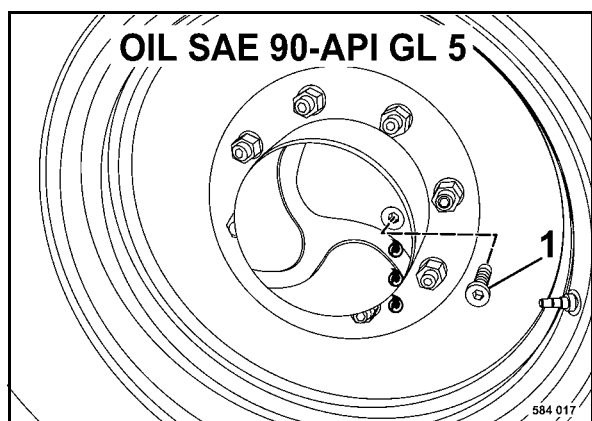

Fig. 89
- Move the drive wheel, until the plug (Fig. 89) is in horizontal position on the housing.